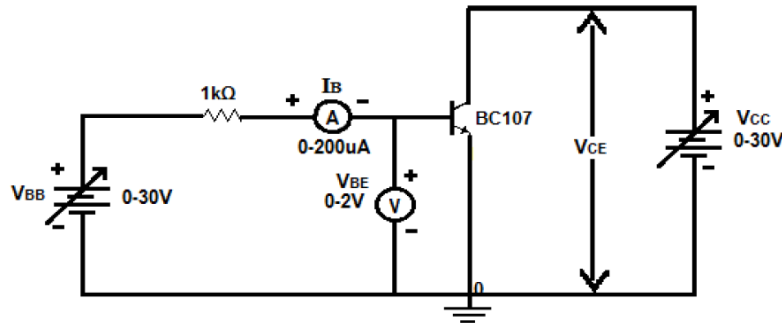

Figure5 Practical input characteristic
1. Connect the circuit as shown in Figure5. Adjust all the knobs of the power supply to their minimum positions before switching the supply on.